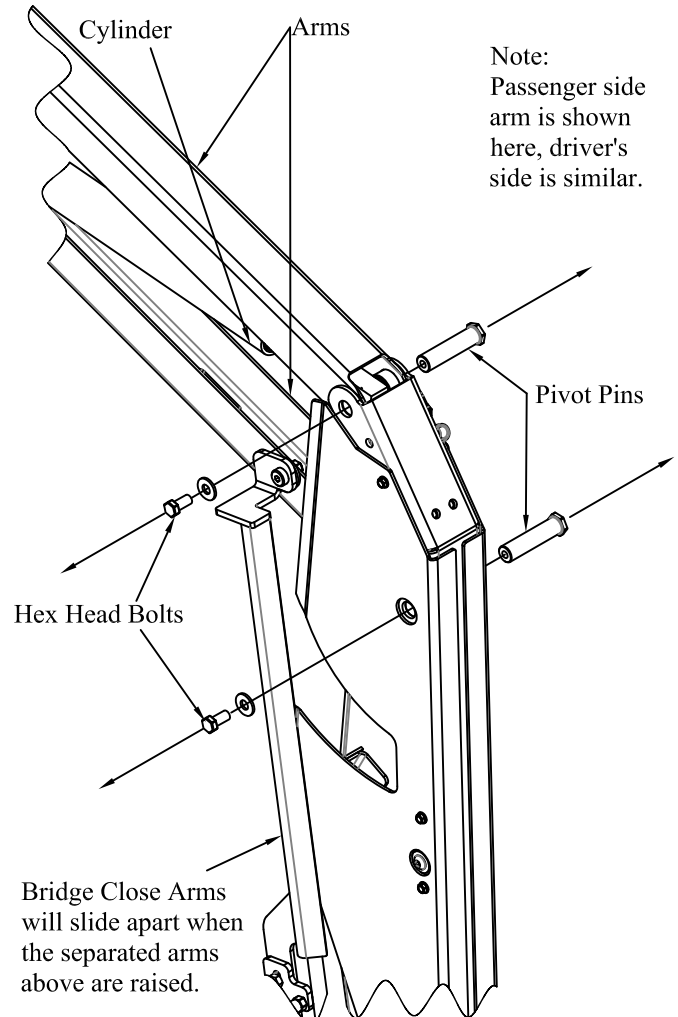

Figure 3: Removing the pivot pins.
1. **Remove** the four hex head bolts from each of the pivot pins. (Figure 3)
5. **Repeat** steps 3 and 4 to remove each of the top two joints on both arms as marked in Figure 3.